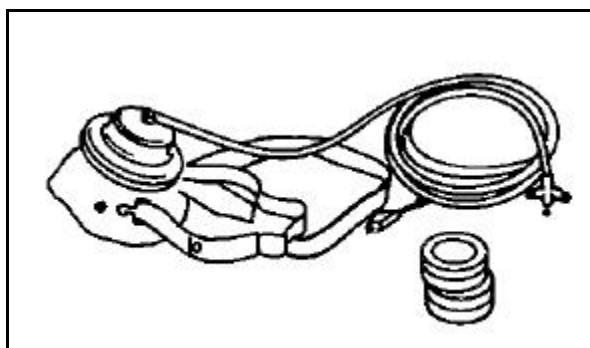

Figure 13-31. Air Supply Respirator
- The air supply respirator (Figure 13-31, page 13-41) provides you with complete protection when working in old, tank interiors, and other areas where no ventilation is possible. This type is supplied with fresh air through a compressed-air line, purified by a charcoal cartridge, and then fed to the breathing compartment of the respirator.